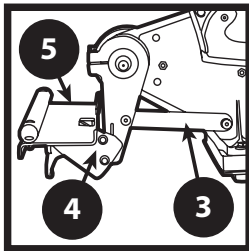

FIGURE 4
5. Using a 3/16" Allen wrench, remove two screws from table support arm mounting block and attach mower blade support table. Tighten securely, making sure to place washers on the outside of bracket on mower blade support table. (Figure 4)